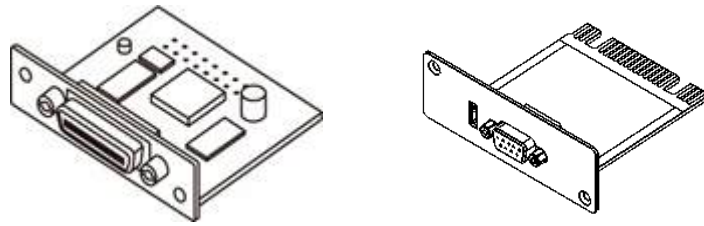

Figure 1-3 GPIB/CAN Interface
- Figure 1-3 shows the optional GPIB/CAN interface of model 63815R-350-105 (item 9). A cover plate is provided if this option is not purchased.